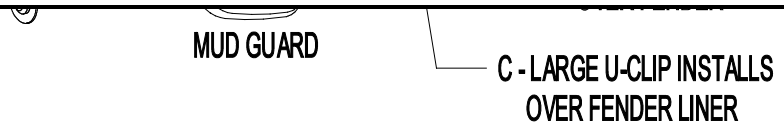

Figure 1
1. Remove the existing fastener from location B (Figure 1).
6. Install a Large U-clip over the fender liner and align with drilled hole at location C (Figures 1 and 2).
8. At location D install a #10 SEM Screw, thru the mud guard, fender liner and into a Small U-Clip placed on the back side of the liner. DO NOT clip the Small U-Clip over the fender liner (Figure 1).